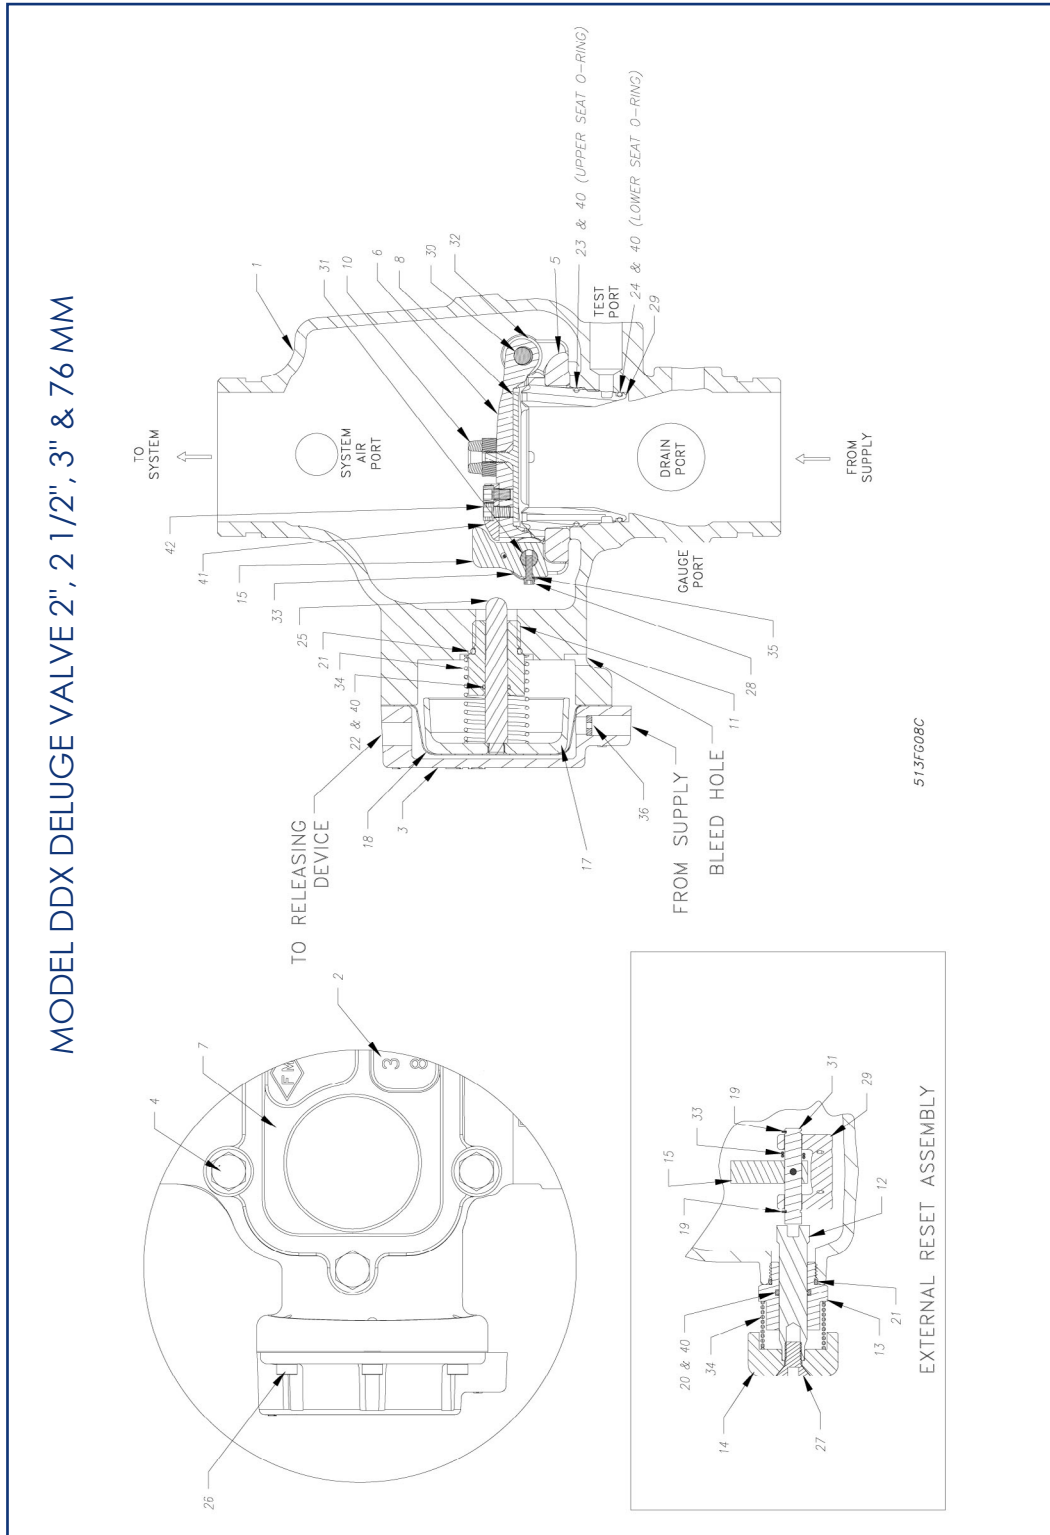
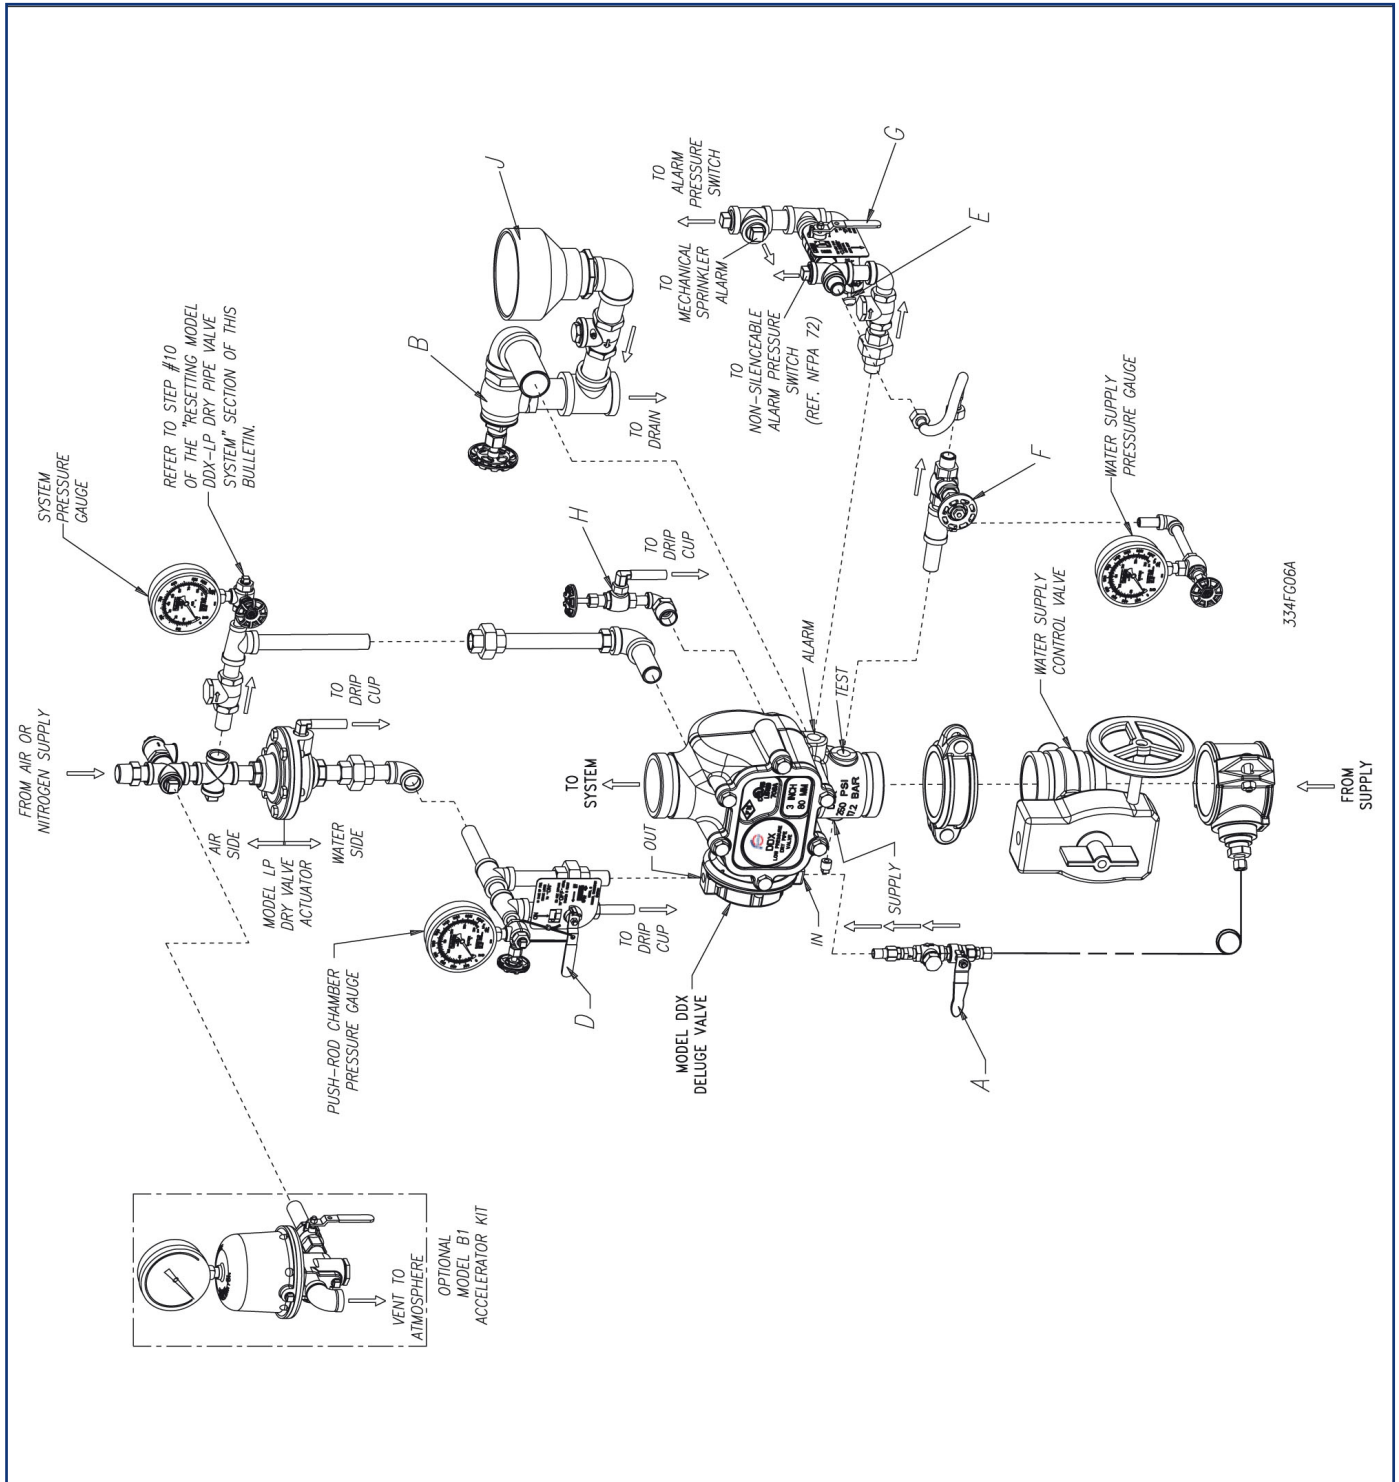

Fig.5
Fig. 6
1. Close the main valve controlling water supply (Fig. 6) to the Dry Pipe Valve and close off the air/nitrogen supply to the sprinkler system.
2. Close the push rod chamber supply valve, valve A (Fig. 6).
3. Open the main drain valve, valve B (Fig. 6), and drain system.
5. With valve F (Fig. 6) open, push in the plunger of ball drip valve, valve G (Fig. 6), to force the ball from its seat, and drain any water in the alarm line.
6. With the Model B Manual Emergency Station, valve D (Fig. 6), open, push in and rotate the Model DDX-LP's reset knob (#14, Fig. 5) clockwise until you hear a distinct clicking noise, indicating that the clapper has closed.
8. Open valve A (Fig. 6) and allow water to fill the Dry Pipe Valve's push rod chamber.
9. Bleed all air from the actuation piping by allowing a steady stream of water to flow through the Model B Manual Emergency Station, valve D (Fig. 6). After all trapped air is released, close valve D. Water should still be coming out of the Model LP Dry Valve Actuator (Fig. 6).
10. Close valve F (Fig. 6). Rapidly apply compressed air or nitrogen into the Model LP Dry Valve Actuator and the system until the pressure conforms to Table A levels, as indicated on the air pressure gauge (Fig. 6).
Note: It may be necessary to temporarily close the main drain valve B (Fig. 6) in order to build sufficient air pressure to "set up" the Model LP Actuator. Once the Model LP Actuator is "setup", the main drain valve B (Fig. 6) should be reopened and the remaining procedure followed.
The Model LP Dry Valve Actuator will close during this pressurizing process and the water will stop flowing into the drip cup. At this point, the pressure gauge which indicates push-rod chamber pressure (Fig. 6) will equalize to the available water supply pressure.
Note: It may be necessary to isolate the system pressure gauge (Fig. 6) in the supply line to the Model LP Dry Valve Actuator during system set-up by closing the 1/4" 3-way valve (#59, Fig. 2). During set-up, pressure fluctuations can occur that are potentially damaging to the gauge. Once the Model LP Dry Valve Actuator is reset accordingly, the air pressure gauge's 3-way valve (#59, Fig. 2) may be re-opened.
12. Open Valve F (Fig. 6). Open slightly the main valve controlling water supply (Fig. 6) to the Model DDX-LP Dry Pipe Valve, closing drain valve B (Fig. 6) when water flows. Observe if water leaks through the ball drip valve, valve G (Fig. 6), into the drip cup, H (Fig. 6). If no leak occurs, the Dry Pipe Valve's clapper is sealed. Open slowly, and verify that the main valve controlling water supply is fully open and properly monitored.
13. Verify that valve A (Fig. 6) and valve F (Fig. 6) are open.
14. Secure the handle of the Model B Manual Emergency Station, valve D (Fig. 6), in the OFF position with a nylon tie (#56, Fig. 2).
2. Alarm line—be sure that valve G (Fig. 6) is opened and remains in this position.
3. Other trimming valves — check that valve A (Fig. 6) is open as well as all of the pressure gauge's 1/4" 3-way valves. Valves D, H, and F (Fig. 6) should be closed.
4. Ball drip valve G (Fig. 6)—make sure valve G (Fig. 6) is open. Push in on the plunger to be sure the ball check is off its seat. If no water appears, the Dry Pipe Valve's water seat is tight. Inspect the bleed hole (see Fig. 5) on the underside of the push rod chamber for leakage.
5. System pneumatic pressure — check air pressure gauge (Fig. 6) and water supply pressure gauge (Fig. 6) for conformance to Table A.
6. Model LP Dry Valve Actuator (Fig. 6) — Verify that the outlet is not leaking water. Check the air pressure gauge (Fig. 6) for proper pressure setting. Verify that the tubing line from the Actuator is not pinched or crushed, which could prevent proper operation of the Dry Pipe Valve.
7. Testing alarms — make sure valve G (Fig. 6) is open. Open valve F (Fig. 6) permitting water from the supply to flow to the electric sprinkler alarm switch and to the mechanical sprinkler alarm (water motor). After testing, close this valve securely. Push in on the plunger of ball drip valve E (Fig. 6) until all of the water has drained from the alarm line.
8. Operational test — Open the Model B Manual Emergency Station, valve D (Fig. 6). Note: An operational test will cause the Dry Pipe Valve to open and flow water into the sprinkler system.
9. Secure Model B Manual Emergency Station, valve D (Fig. 6), in the OFF position with a nylon tie (#56, Fig. 2) after the Dry Pipe Valve is reset.
Refer to Fig. 6
2. Leakage out of the ball drip valve E (Fig. 6).
- b. Leakage, air or water from the ball drip valve, E (Fig. 6): If system air is leaking out the ball drip valve, the problem is either damage to the airside of the Model DDX Dry Pipe Valve's seal face plate sub assembly (#8, Fig.5), seat (#29, Fig. 5), or the upper seat O-ring (#23, Fig.5). If supply water is leaking out the ball drip valve, the problem could be caused by damage to the Model DDX Dry Pipe Valve's seal faceplate sub-assembly (#8, Fig. 5), seat (#29, Fig. 5), or lower seat O-ring (#24, Fig. 5).
A) Shut down the valve controlling the water supply to the Dry Pipe Valve and open the 1 1/4" main drain valve B (Fig. 6). Open the water column drain valve H (Fig.6). Close the push rod chamber supply valve A (Fig.6) and open the Model B Manual Emergency Station D (Fig. 6). B) Remove the Dry Pipe Valve's front (handhold) cover (#7, Fig. 5) and inspect the seat (#29, Fig. 5), clapper (#6, Fig. 5), and seal faceplate sub assembly (#8, Fig. 5) for damage. If inspection indicates damage to the seal faceplate sub-assembly (#8, Fig. 5), replace as follows: Remove the bump stop nut sub assembly (#10, Fig. 5) and remove the seal assembly (#8, Fig. 5). Install a new seal assembly (#8, Fig. 5) and thread the bump stop nut (#10, Fig. 5) onto the threaded stud of the seal sub-assembly (#8, Fig. 5) and tighten finger tight plus 1/4 to 1/2 turn. If inspection indicates damage to the clapper (#6, Fig.5) only, then the clapper sub-assembly can be removed as follows: At the rear of the valve, disconnect the water column drain trim section starting with the elbow connector (#23, Fig. 2). Then remove the 1/4" angle valve (#61, Fig. 2), followed by the 3/4" x 1/4" reducing bushing (#5, Fig. 2). Remove the retaining ring (handhold cover side) from the clapper hinge pin (#30, Fig. 5) and push this pin through the water column drain line and remove the clapper sub assembly. Replace the seal sub-assembly as described previously. Inspect the clapper (#6, Fig. 5) visually before reinstalling. Reinstall in the reverse order making sure the clapper spacers are in their proper position. If the seat (#29, Fig. 5) is damaged or it is suspected that the leakage is through the lower O-ring (#24, Fig. 5), the seat-clapper subassembly is easily removed as a unit as follows: Using Seat Wrench, remove the seat by unscrewing. This will loosen the seat-clapper-mounting ring subassembly. Reach into the valve and grasp the seat-clapper sub assembly and remove it from the valve. Visually examine all components of the seat-clapper-mounting ring sub-assembly replacing any component that appears damaged. New O-rings (#23 & #24, Fig. 5) should always be used for reassembly.
- a) Shut down the valve controlling water supply to the Dry Pipe Valve. Relieve the inlet pressure by opening the 1 1/4" drain valve B (Fig. 6). Close the valve A (Fig. 6) that supplies water to the push rod chamber, and open the Model B Manual Emergency Station, valve D (Fig. 6).
Refer to Figs. 6 and 7
1. Close the main valve controlling water supply (Fig. 6) to the Dry Pipe Valve and close off the air/nitrogen supply to the sprinkler system. Close valve A (Fig. 6).
2. Drop pressure in the system by opening the 1/4" angle valve, valve H (Fig. 6.), and remove the Actuator from the system.